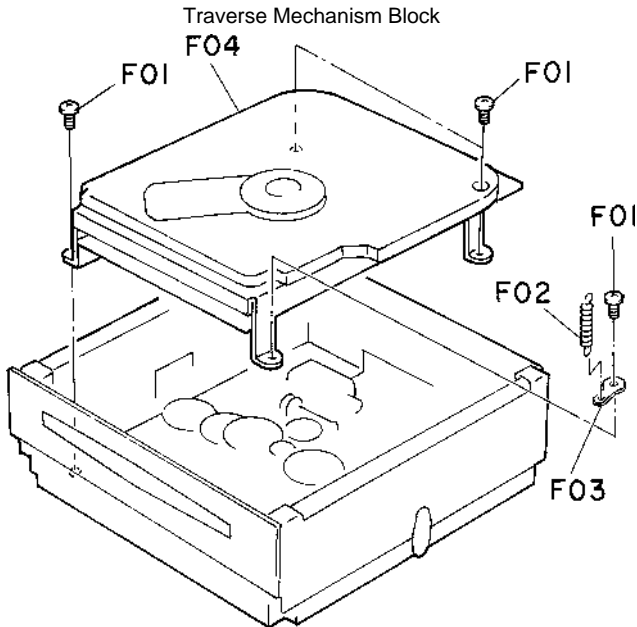

Fig. 1.7.1
Refer to Figs. 1.7.1 and 1.7.2.
- (1) Remove the Mechanism Chassis Block. Refer to item 1.5.
- (2) Remove screws F01 (M3x5 + Binding (Black), 4 pcs.), F02 (Stabi SP) and F03, and detach F04 (Traverse Mechanism Block). Refer to Fig. 1.7.1.